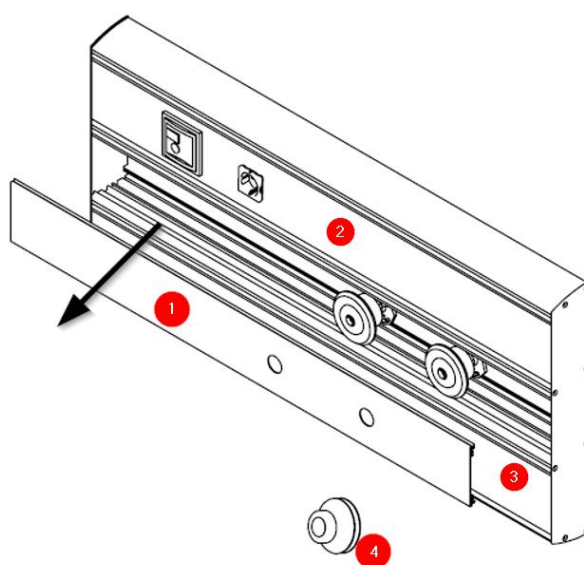

Fig. 2 Removal of front coverings
To anchor the equipment, first remove the front covers of the enclosure (1, 2 and 3) with the help of the plastic suction cup (4) (see Fig. 2).